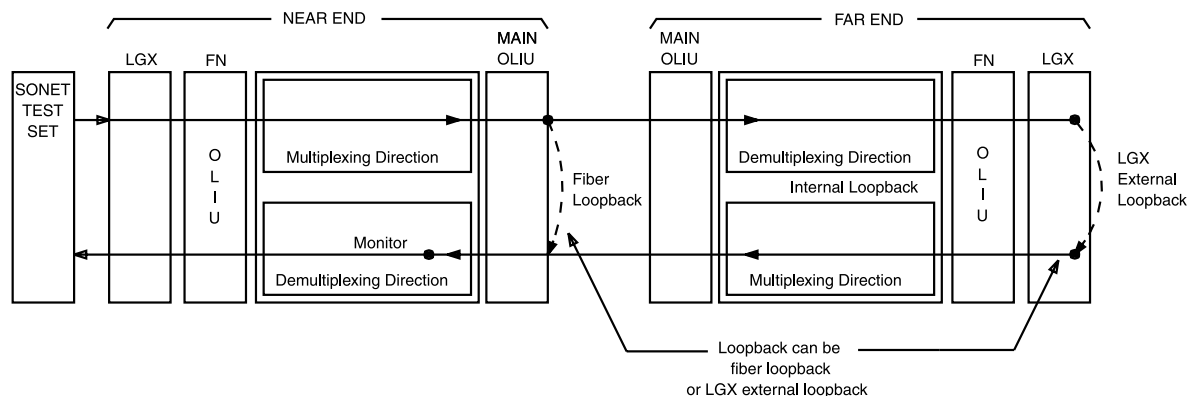

Figure 1 – Transmission Test of OC-3c Signal in MUX Direction
This procedure may be used to perform OC-3c transmission tests in the mux (toward the fiber) direction. When this procedure is being used to perform end-to-end OC-3c tests, it is assumed that the complete end-to-end system has already been tested and that only the OC-3c signal is being tested at this time. Transmission tests in the *mux* direction may be local or end-to-end tests (see Figure 1).
- See Figure 1. If local tests are being performed, the fiber loopback at the near-end **22D-U/22G-U/22G2-U/22G3-U/22G4-U OLIU** must be in place. If end-to-end tests are being performed, at the far-end LGX cross-connection associated with the DDM-2000 OC-3 Multiplexer being tested, connect a patch cord from the **OUT** jack to the **IN** jack for the OC-3c signal to be tested.